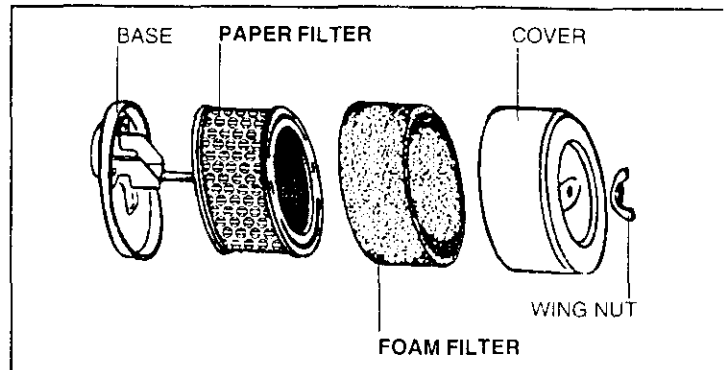

Figure 4
3 AIR CLEANER (see Figure 4):
A. TO SERVICE FILTER(S) (see Figure 4):